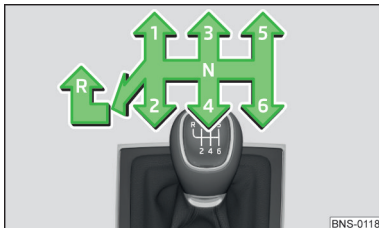

Fig. 251
The gearshift pattern for the individual gear positions is shown on the gear lever » Fig. 251.
- › Push the shift lever downwards fully to the left and then forward into **R** » Fig. 251.